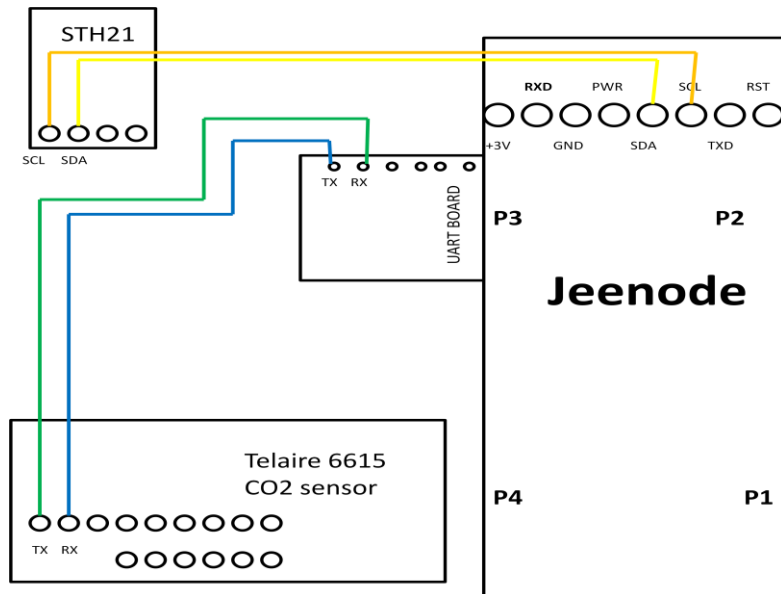

Figure 21(Block diagram of the circuit for the communication lines)
- **Tubing layout:** From Figure 21, it is visible that the Teflon AF tubing is going to go inside of the Cooper nickel tubing, get out of it and go into the compression fittings. It is